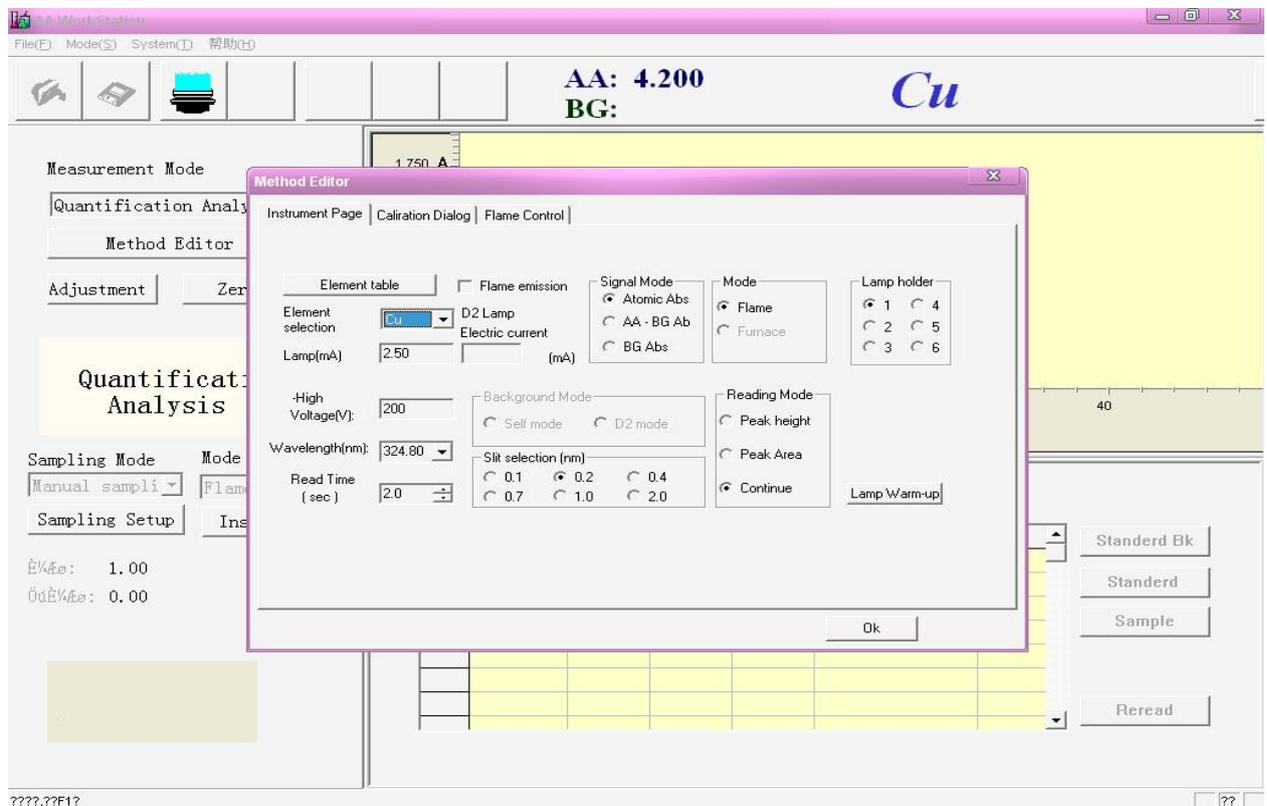

Figure 4-5
4. Click on **【OK】** button, display the following shown in Figure 4-5.